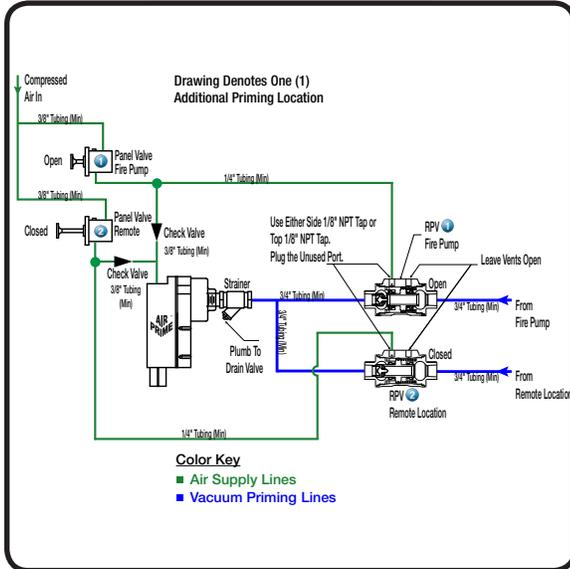

Figure 1
2. Locate the existing Manual *AirPrime* unit within pump enclosure. It can be found by tracing the existing air line from the PUMP primer push-button control on the pump panel to the TOP of the *AirPrime* unit (See **Figure 1**). Verify that the unit is already mounted ABOVE the highest priming point in suction piping (Including the new priming location), if not move it higher.